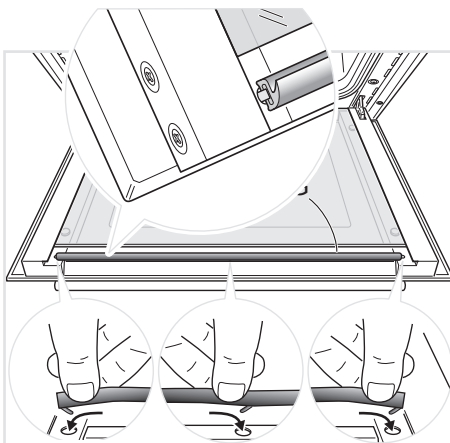

Figure 20d
- Reassemble the seal "G" in the correct way by hooking the no. 3 fixing hooks in the proper holes (fig. 20d).